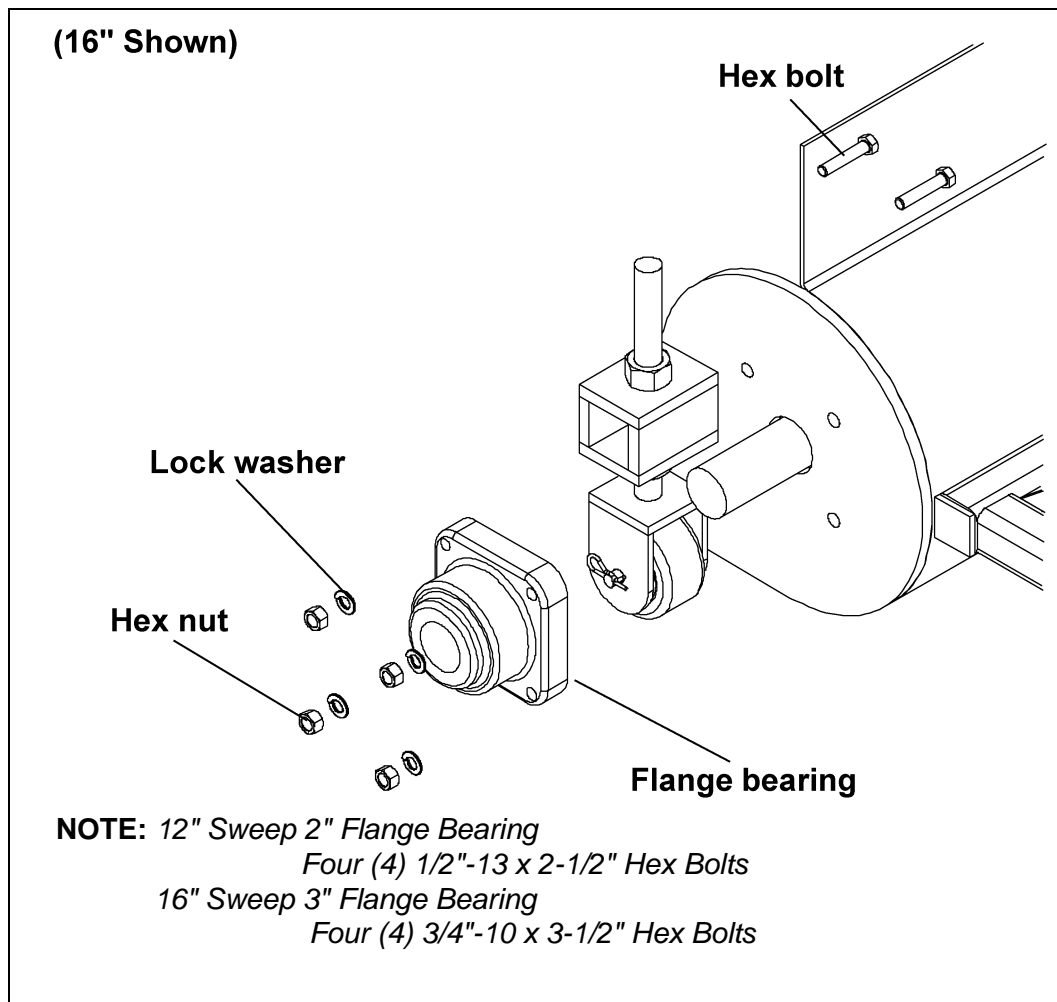

Figure 50
- A. Slide the flange bearing onto the end stub and bolt it to the end plate using hex bolts, lock washers and hex nuts as shown in See Figure 50.